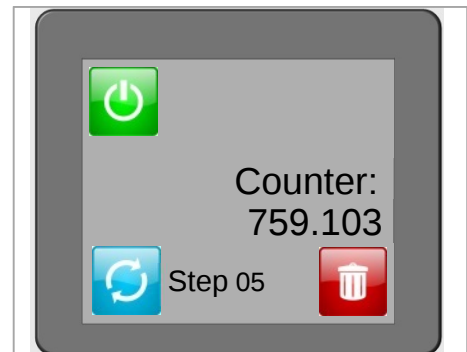

Fig. 7.8
- + first step (Fig. 7.8) for holding the inserted contact,